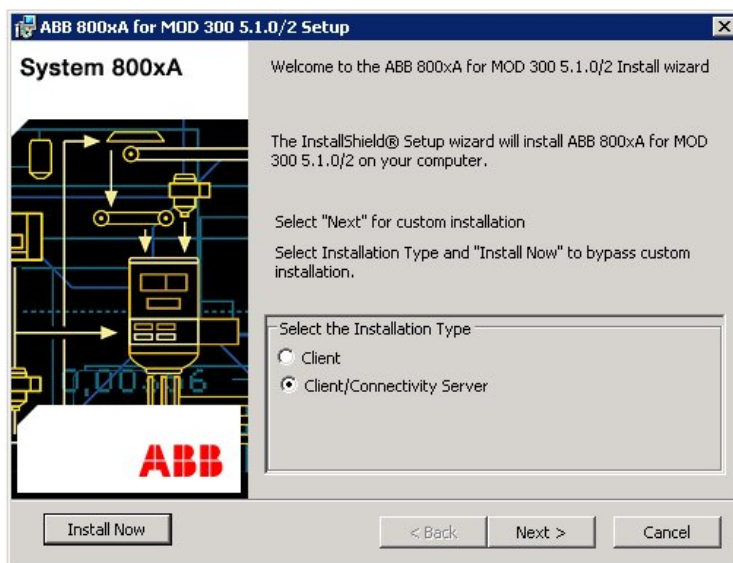

Figure 45. MOD 300 Setup Dialog Box
1. The ABB MOD300 Connect Setup dialog box appears. The installer determines the correct installation type, as shown in Figure 45.